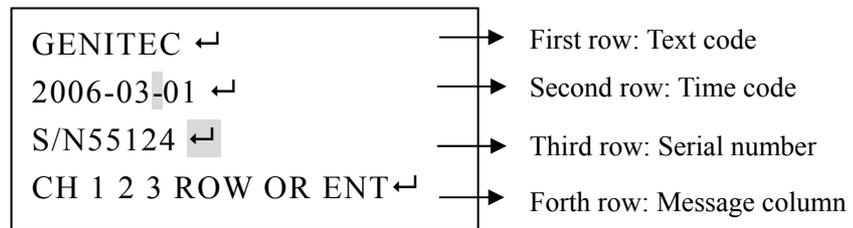

Figure 32
10. Then press  ,  ,  ,  those buttons until you finished your modification. (Refer to figure 32)